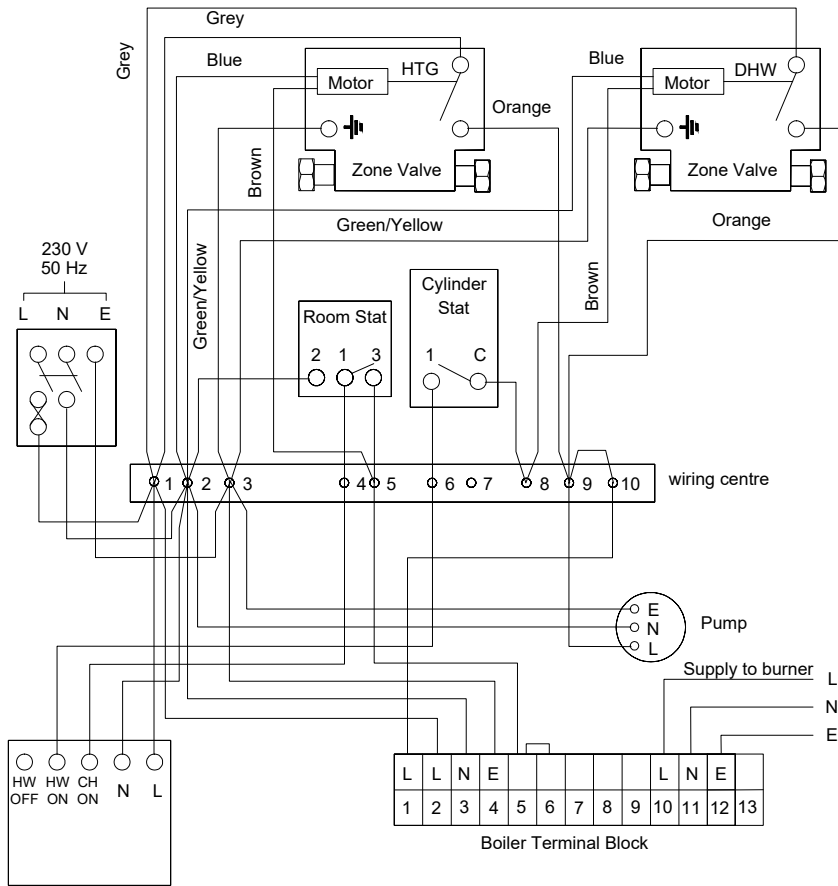

Figure 8-1: External wall hung - 2 X 2-port valve control system
Refer to Figures 8-1 to 8-4 for typical control system wiring diagrams for all models.
Refer to Figures 8-1 to 8-4 for typical control system wiring diagrams.
8. Make the remaining required connections to the control panel, as detailed in Figures 8-1 to 8-4.
For connection details please refer to Figures 8-1 and 8-2.